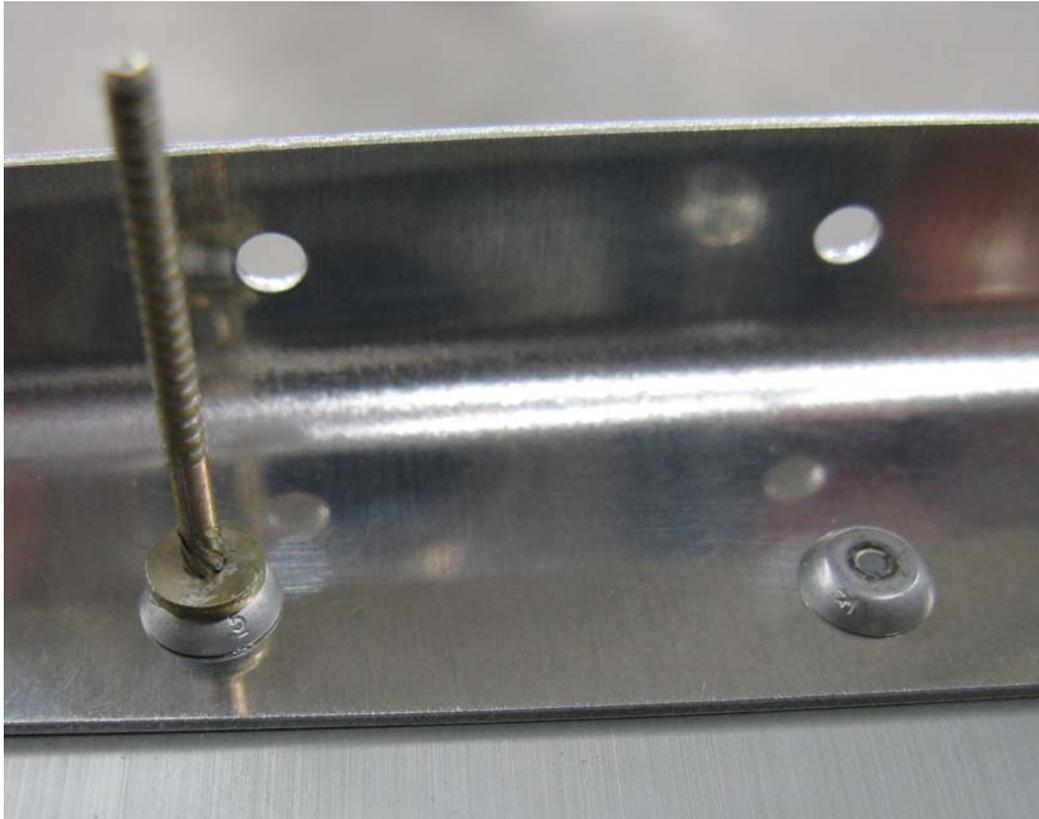

FIGURE 14A: CR32XX MANUFACTURED HEAD EXAMPLE
[Step 2]: Verify correct rivet part number which is marked on the head of the rivet as shown in left-hand side of Figure 14A.
[Step 3]: Insert rivet in hole and verify manufactured head fits square and flush to material surface. See the left-hand side of Figure 14A.
[Step 5]: Operate tool while taking care to not lean tool or bend rivet stem while doing so. Continue to pull rivet stem until it snaps free as shown in right-hand side of Figure 14A.
- i. Nearly flush surface due to stem fracture at top of manufactured head. See right-hand side of Figure 14A.
- ii. Base of manufactured head should be tight against surface of material being riveted as shown in right-hand side of Figure 14A.